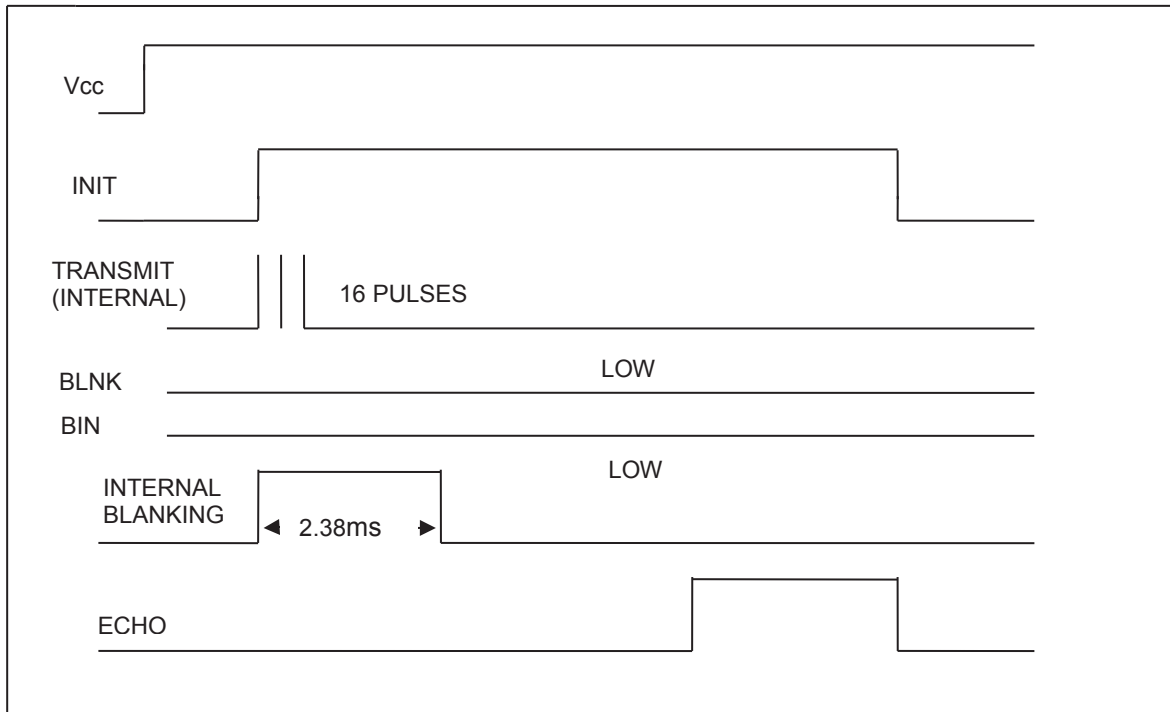

FIGURE 3-4 SINGLE MODE CYCLE WITHOUT BLANKING
- Single-echo mode (default). The BLNK input is always at a logic low (no input). This is the normal method of operation for detecting a single target (see Figure 3-4).
The waveforms illustrated in Figure 3-4 represent the normal single mode operation for the Ranging Module. This figure also illustrates the timing relationships of these waveforms.
A TTL compatible logic signal, INIT, is an input to the ultrasonic circuit board. This signal initiates a transmit/receive cycle (Figure 3-4). For proper operation, INIT should be high (+4 VDC) for 100 milliseconds and low (0 VDC) for a minimum of 100 milliseconds. INIT must remain high during the entire transmit and receive cycle until the ECHO output signal becomes high. The internal clock within integrated circuit (IC) U2 is enabled when INIT is high, and disabled when INIT is low. You can observe this clock signal at the open-collector oscillator output (OSC) on connector J1 pin 6.
The received ECHO output (Figure 3-4 and 3-5) indicates that the reflected transmitted signal has been received. By measuring the time between the rising edge of INIT and the rising edge(s) of ECHO, the distance between the transducer and the target(s) can be calculated.